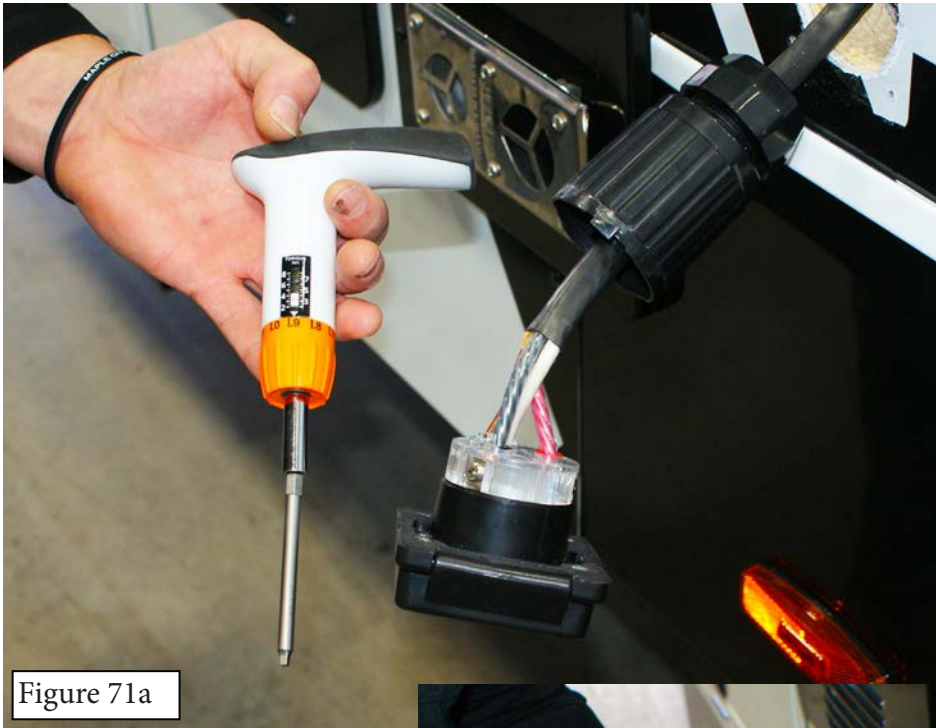

Figure 71a
- Once satisfied all connections are correct and input connection housing is undamaged, use a torquing tool (that measures in in-lbs.) and a #2 square drive bit to torque **ALL CONNECTIONS** to the appropriate torque for the style of inlet used (Figure 71a and 71b):